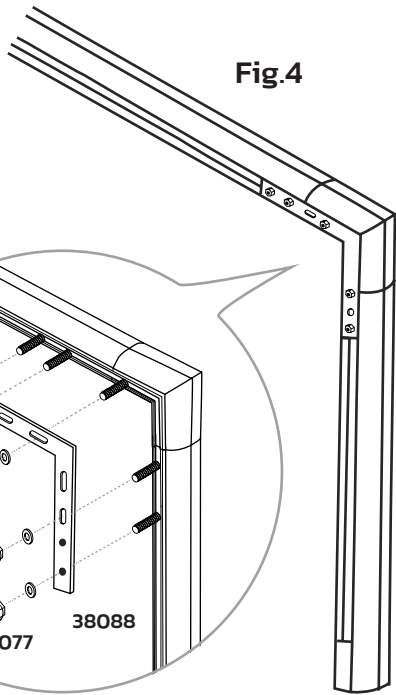

Fig.4
STEP 4 - Fixing Crossbar to Uprights (Fig. 4)